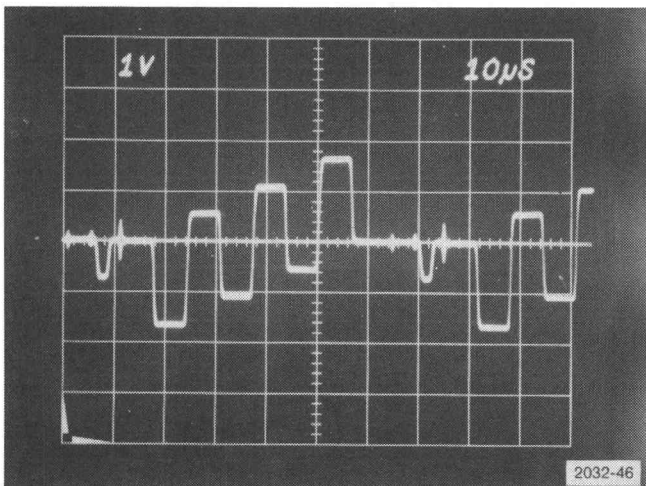

Fig. 5-4. Typical waveform at TP1954.
d. CHECK—that the demodulated B-Y (U) chrominance is free from rolloff, peaking, and ringing. See Fig. 5-4.